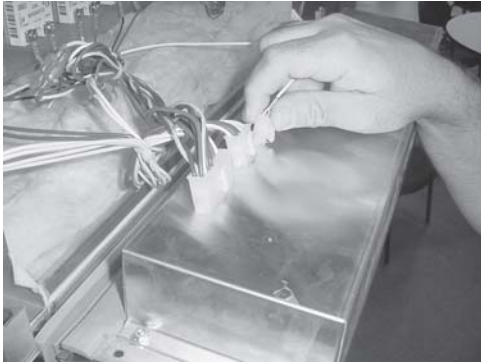

Figure 3-34
2. Pull connectors from back of panel and remove panel. Figure 3-34 Install complete panel in reverse order. When installing the PC board, continue to step 3.